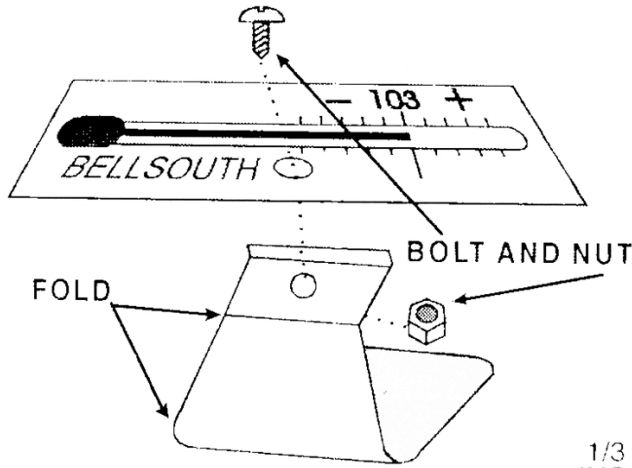
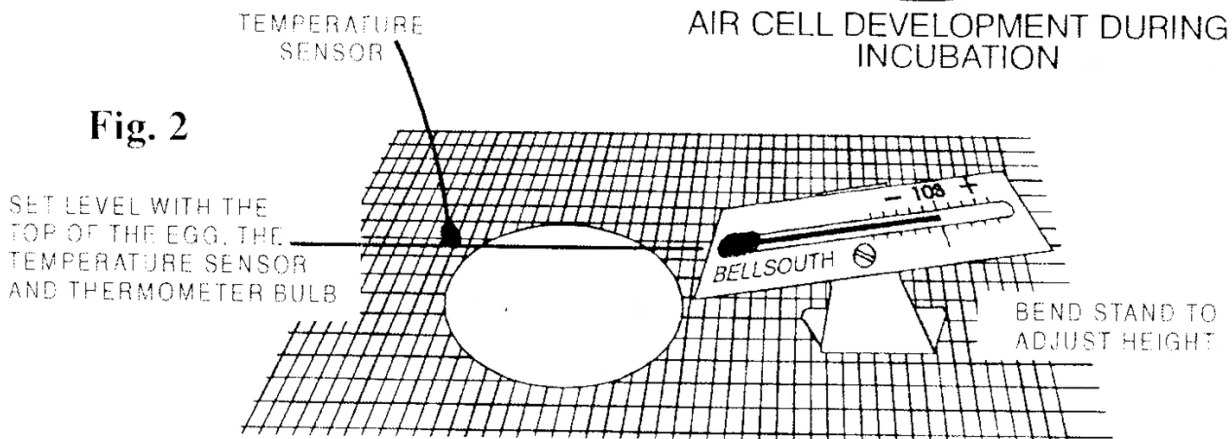

Fig. 1
Fig. 2
2. Remove thermometer from the box. The stainless steel stand has two lines drawn on it. Bend the stand along the lines and then screw the thermometer onto the stand (See Fig 1). The bottom of the thermometer bulb should be level with, or just above, the top of the eggs. Adjust the height by bending the stand (See Fig 2). Place the thermometer where it can be seen through the view port. The idea is to mimic the broody bird.
3. Adjust the end of the temperature sensor lead until it is just clear of the top of the eggs (See Fig 2). It is usual for the sensor to be 1-3mm above the top surface of the egg. Place the top of the incubator over the base, and check that the thermometer is easily read through the view port. **Do not put eggs in the incubator until temperature has been stabilised.**
5. Set thermometer with the bulb level, with the top of the eggs, and 103 degrees F as the set temperature. Thermometer and temperature sensor should be at the same height as the top of the eggs but should not touch the eggs (see Fig 2). Remember a few minutes setting up correctly will save a lot of distress.